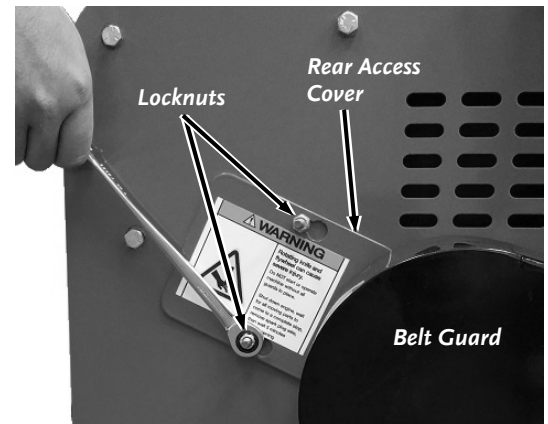

Figure 51
1. Loosen the Locknuts that secure the rear Access Cover with a 7/16" Wrench (**Figure 51**). Move the Cover over to align the larger portion of the hole with the Locknuts and remove the Cover.